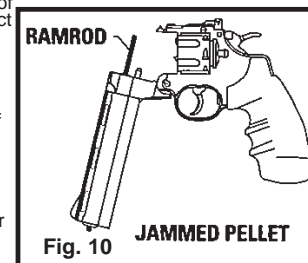

Fig. 10
- If the jam is in the barrel, remove the pellet clip and push the jammed pellet out of the muzzle end of the barrel using a ramrod of the proper size. (Start at the breech.) (Fig. 10) The barrel could be damaged if the proper sized ramrod is not used.